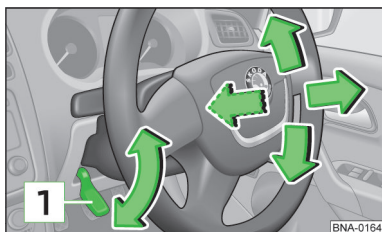

Fig. 17
- Fold the lever  » fig. 17 down.